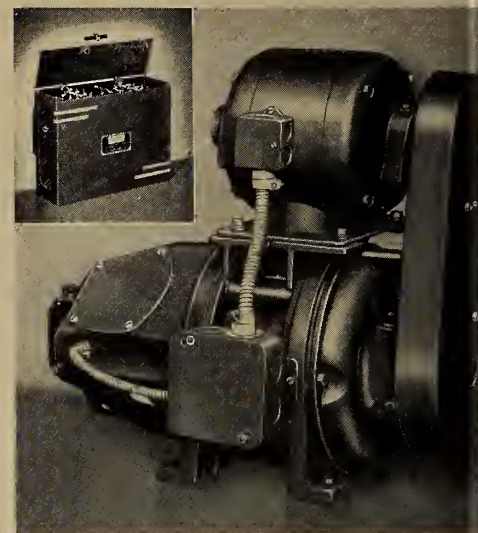
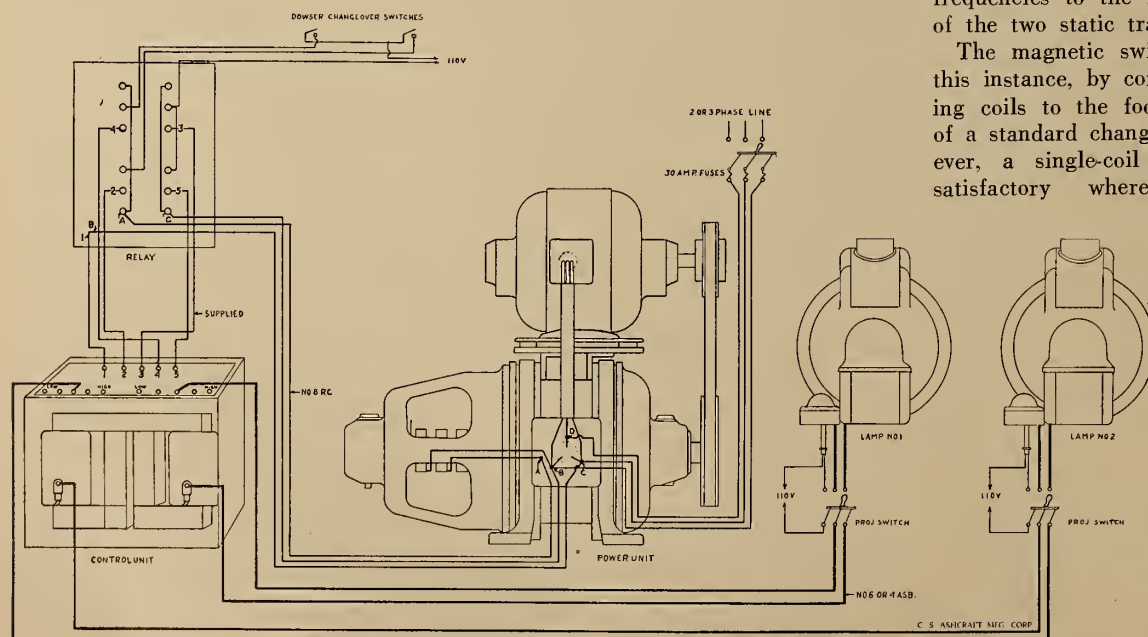

FIGURE 2. Power and control unit
FIGURE 3
In Fig. 3 is shown the entire arrangement of converter-transformers-switching arrangement and arcs interconnected for projection. Polyphase current is shown at the entrance switch, either two- or three-phase being satisfactory (single phase cannot be used), as the principle of frequency conversion used in Cyclex operation is dependent on the rotating magnetic field in the rotary transformer. The polyphase current is shown wired
Figure 2 shows the converter proper, consisting of the rotary transformer (located below) driven by the small motor mounted together so as to form one compact unit. Power transmission is by a heavy vee-belt designed to transmit three times the power required. As shown in Fig. 3, the commercial frequency current enters the primary or stator of the rotary converter, causing a rotary magnetic field within which the secondary (rotor) of the transformer is revolved in a direction opposite to the rotation of the field. From the rotating secondary of the converter the arc current is transmitted through brushes and collector rings and sheathed wires to the control unit, where it is transformed to the proper voltage for direct use in the arc and switched to the proper arc at the will of the projectionist.
Figure 2 shows the complete control cabinet which is connected, through flexible metal conduit protected leads, to the junction box of the converter as shown in Fig. 3. The function of the unit is (1) to receive currents of single-phase, both commercial and co-ordinated frequencies, from the power line and converter, respectively, and transform them to the proper voltage values for use in the arcs; (2) provide adjustments for varying the voltages of both commercial and co-ordinated frequency currents supplied to the arc, and (3) provide switching means for transmitting the current of